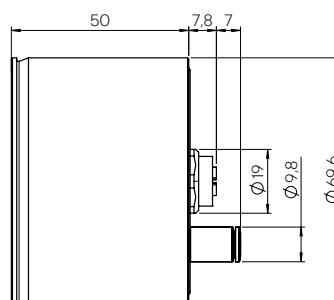

Figure 3
Per il montaggio utilizzare questi due filetti M4 (C) sul lato posteriore distanziati di 51 mm; vedi fig. 3.
The screw threads are located in a line with the positions of the camera lens(es) (E1, or depending on configuration E2). For output in landscape format, the screw positions (C) must be located along a horizontal line. For portrait format, they must be along a vertical line, see Figure 3.
For mounting, use the two M4 threads (C) on the rear side at a distance of 51 mm, as shown in Figure 3.